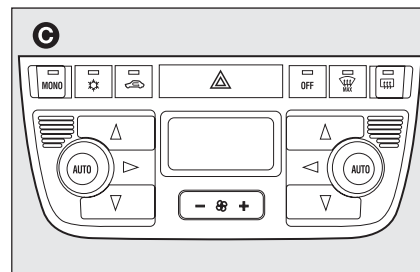

fig. 7
- ☐ with automatic two-zone climate control system **C**-**fig. 7**.